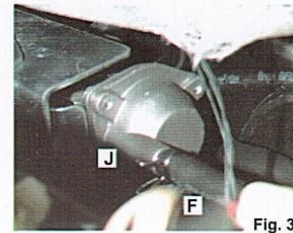
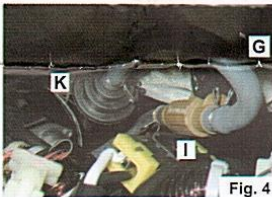

Fig. 3
Fig. 4
3. Remove the black hose connecting the choke pod (Fig. 3, J) to the back pressure check valve (Fig. 4, K). Discard the hose.
4. Install the black hose (Fig. 3, F) of the cold start valve assembly (Fig. 4, I) to the choke pod (J) and the gray hose (Fig. 4, G) to the back pressure check valve (K).